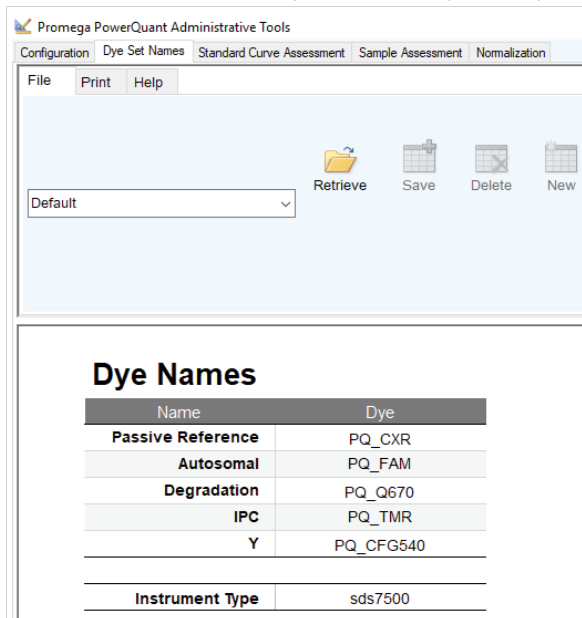

Figure 66. The 'Dye Set Names' tab with the default dye names for each target.
4. Enter the dye names in the fields provided for Dye associated with target Name and select the **Save** icon (Figure 66).
Note: Plate map import using the default entry "sds7500" is compatible with current versions of Applied Biosystems® 7500, 7500 HID and QuantStudio™ 5 Real-Time PCR System software (Figure 66).